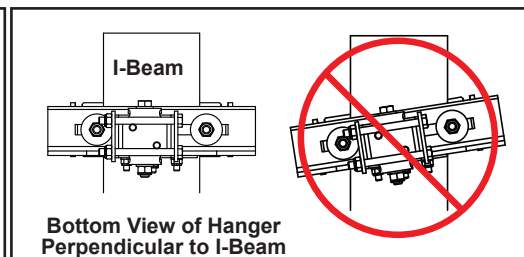

Figure 3-66B
Step 7. Ensure I-beam bracket is perpendicular to I-beam lower flange. See Figure 3-66B below.